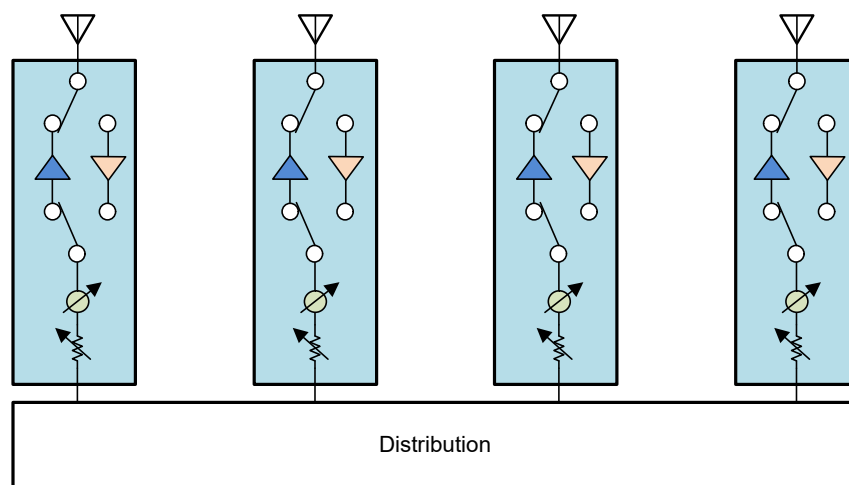
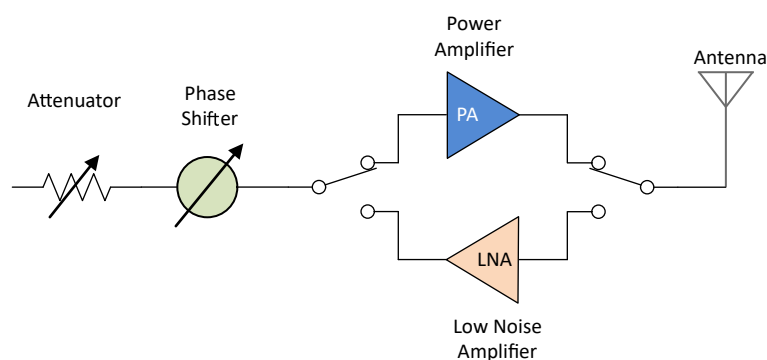

Figure 1. Antennas in an Array
Figure 2. Phased Array Antenna
However, modern phased-array satellites can contain hundreds or even thousands of transmit and receive paths as shown in Figure 1. Each path may include a power amplifier (PA), low-noise amplifier (LNA), phase shifter, and associated control circuitry as shown in Figure 2. This architecture dramatically improves beam steering and communication capacity, but it increases the number of required control and status signals. These control and status signals often must operate across different voltage domains